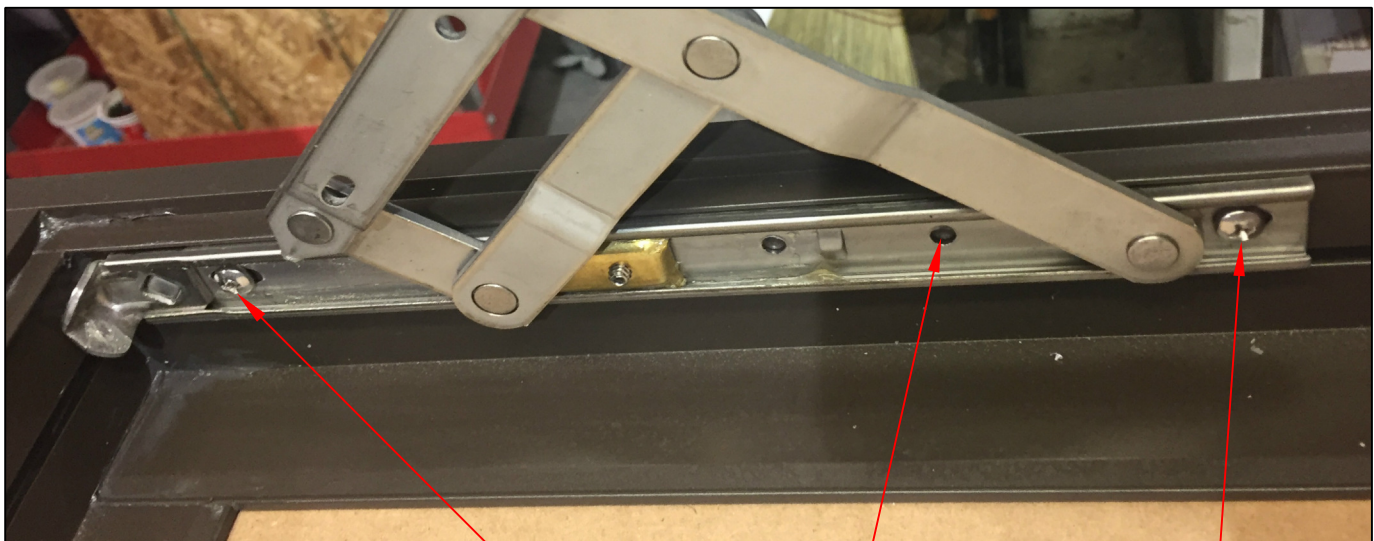

Figure 13
- B. Open the vent and locate the screws that attach the hinge to the frame. While supporting the vent, remove the set screws and loosen the adjustment screws. (See Figure 13 below)